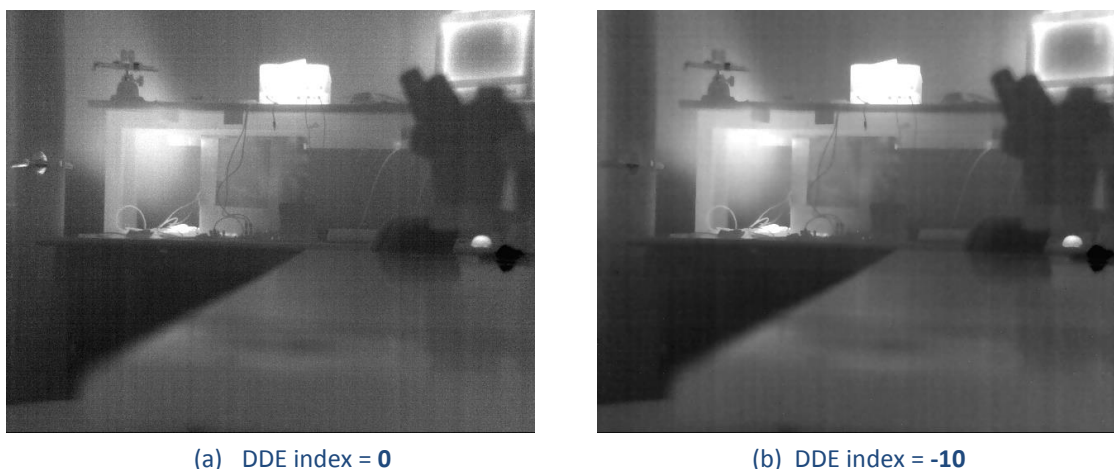
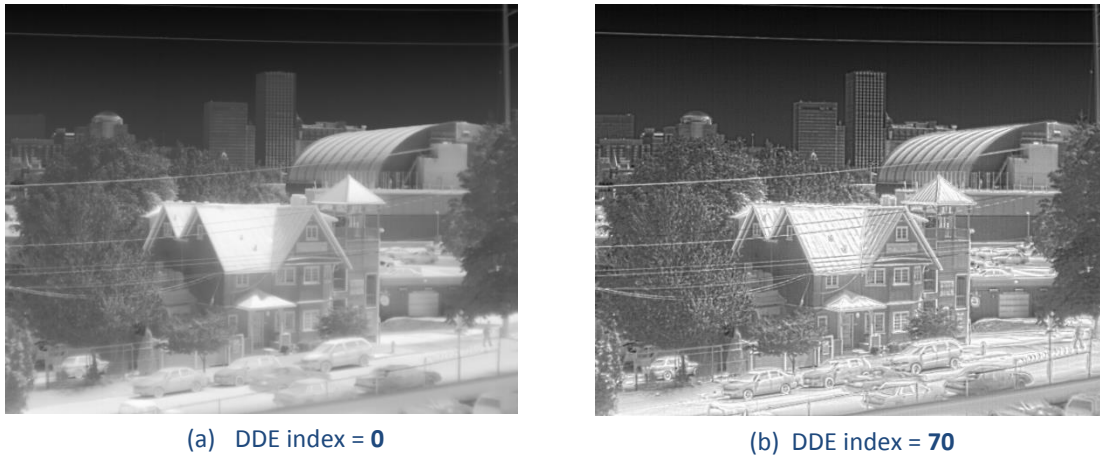

Figure 3: Illustration of Noise Suppression with DDE
Figure 4: Illustration of Detail Enhancement with DDE
- **Dynamic mode:** DDE parameters are computed automatically based on scene contents. DDE index (which supplants the spatial-threshold parameter used in the manual algorithm) is the only controlling parameter and ranges from -20 to 100 for Tau 2.7 and later releases, with higher values representing higher degrees of detail enhancement. If no enhancement is desired, the value should be set to 0. Values less than 0 soften the image and filter fixed pattern noise, as exemplified in Figure 3. Values greater than 0 sharpen the details in the image, as shown in Figure 4. For previous Tau 1 and Tau 2 releases, the DDE index ranged from 0 to 63, where 0 to 16 softened the image, 17 was neutral, and 18 to 63 sharpened detail.